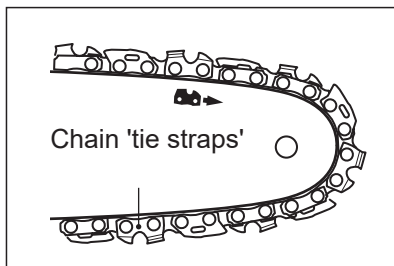

Fig. 2d
- 4). Check the chain tension using one hand to lift the saw chain (3) against the weight of the product. The correct chain tension is achieved when the saw chain can be lifted by approximately 2 - 4 mm from the guide bar (4) in the centre (Figs.2d, 2e).